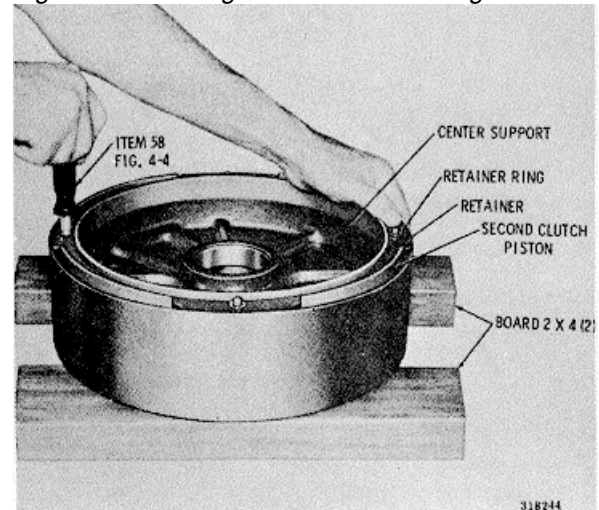

Fig. 6-45 Installing retainer rings onto second clutch piston
(1) Temporarily place piston 10 in the front piston cavity of center support housing 18. Install springs 9 into the pockets of the piston. Aline spring retainer 8 on the four ejector pin bosses of the piston. Compress the springs by forcing the retainer into the recess at the outer edge of the center support when the retainer rings are installed (fig. 6-45). Install a new self-locking retainer ring 7 on the ejector pins of each piston, using installer 58 (fig. 4-4). Remove the piston from the center support.
(2) Repeat the procedures in (1), above, to assemble items 21 through 24 (A, foldout 12) into the rear cavity of support housing 18.